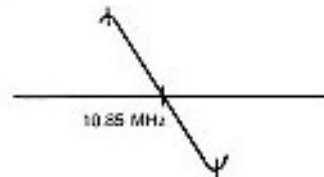

FIGURE 12
Step 2: Adjust T1 and T2 so that 10.85 MHz marker is in the center of the discriminator curve as shown in Figure 12.